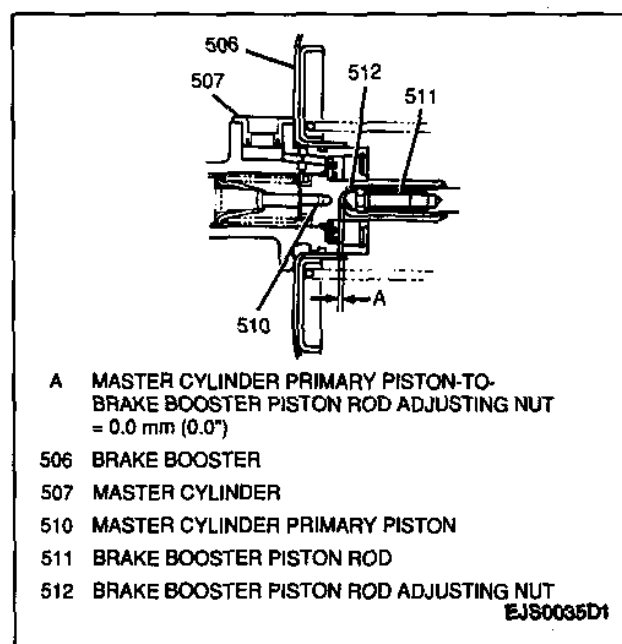

Figure 3—Master Cylinder Primary Piston-to-Brake Booster Piston Rod Adjusting Nut
Figures 3 through 6
- The clearance between the master cylinder primary piston and the brake booster piston rod adjusting nut should be 0.0 mm (0.0 in.) (Figure 3).